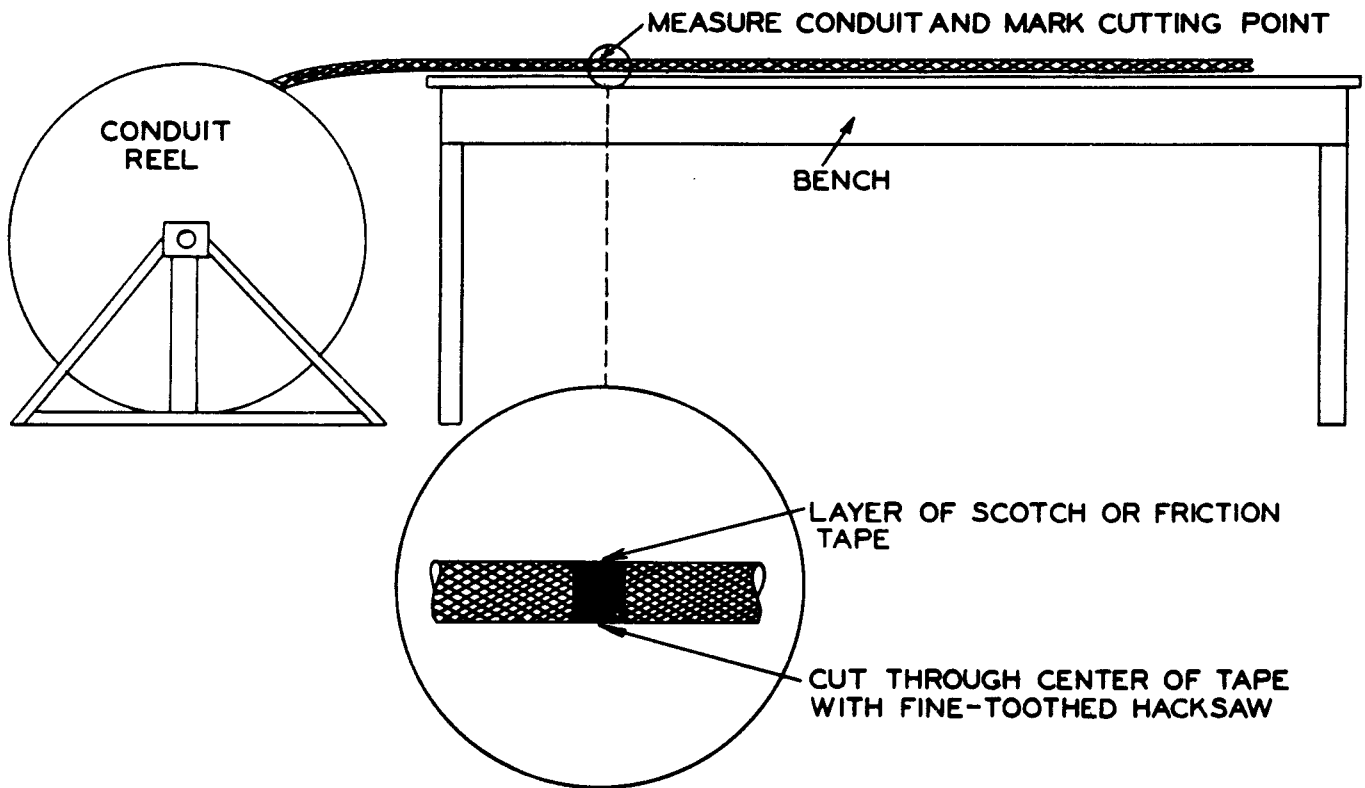
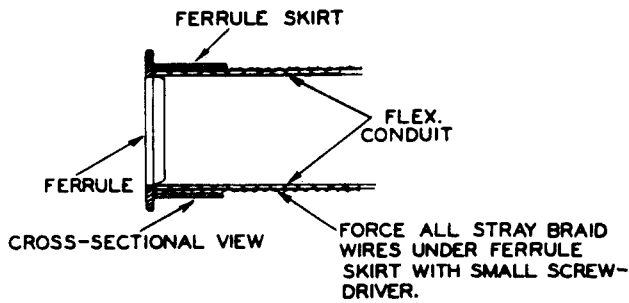

FIGURE 21. PREPARING FLEXIBLE CONDUIT FOR CUTTING
FIGURE 22. LOCATION OF BRAID IN RELATION TO FERRULE
(1) The conduit used to make up these cables is flexible aluminum BX covered with a woven metal braid. In working this conduit, care must be used not to flatten the conduit or ravel the braid. Also flexible conduit should never be stretched tightly, as it then loses its flexibility and the aluminum BX will part if it is bent when stretched.
(2) Lay the conduit on a flat surface and mark off the desired length. Make certain that the conduit is not stretched when extended. See figure 21.
(3) Wrap a layer of scotch or friction tape around the conduit, centering it on the cutting mark. This tape will prevent the braid from being raveled by the saw-blade.
(4) Place the conduit in a conduit cutting vise that fits it tightly, making sure the cutting mark is under the saw slot. If a conduit vise is not available, use a pipe vise for clamping the conduit, first inserting a piece of hard-wood dowel stock that will fit firmly inside the conduit. Do not clamp the conduit so tightly in the pipe-vise that it will be flattened.
(5) Using a hacksaw with a fine-toothed blade, cut off the conduit at the mark, sawing through the tape.
(6) Remove the conduit and cut off any burrs or sharp edges left by the saw with a file or knife. Use a pair of diagonal cutters or metal shears to trim off the frayed ends of braid. Do not remove the tape till ready to apply the ferrule.
(7) Remove the tape and slip the conduit coupling nut onto the cable. The ferrule is now placed on the conduit, making certain all the braid wires are pushed under the ferrule skirt. Use a small screwdriver blade to push any stray wires under. See figure 22.